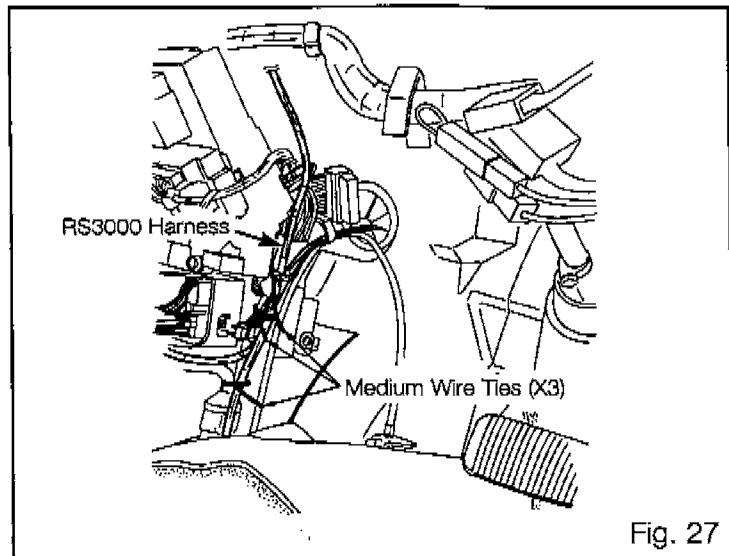

Fig. 27
- (9) Route the RS3000 harness up along the vehicle's wire harness toward J/B No. 1, and secure it with three medium wire ties as shown. Fig 27